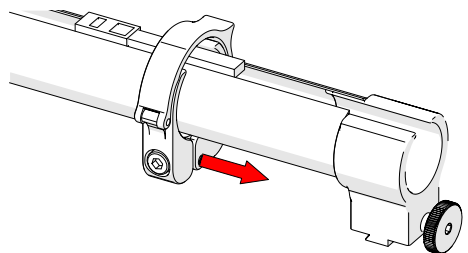

Fig. 60 - Slide clamp onto mount
3. Slide the clamp over the tube and cable management dovetail mount, pinching the tube in between (Fig. 60).